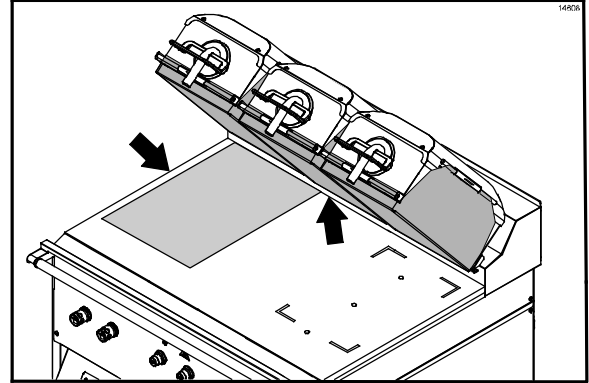

Figure 72
49. With the narrow side of the lower release sheet facing the back of the grill, hold the release sheet about one inch from the end of each side. Align the back edge of the release sheet with the back splash and the side edge of the grill. (See Figure 72.)